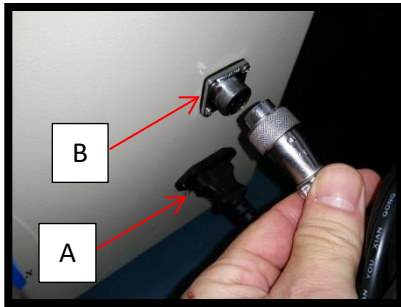

Figure 1
- Plug one end of power cord "A" into the machine socket located on the lower right side of machine. The other end can be plugged into a suitable wall outlet. Also plug in the foot pedal "B" which is also located in the same location. Figure 1